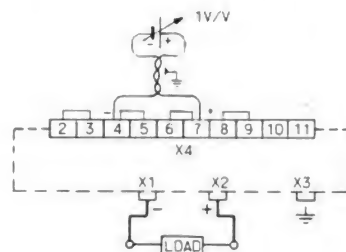

Fig. 8e. Remote voltage control with external voltage
- By connecting an adjustable voltage source of 1 V per volt output voltage as shown in Fig. 8e. The voltage source must be able to consume 1 mA.